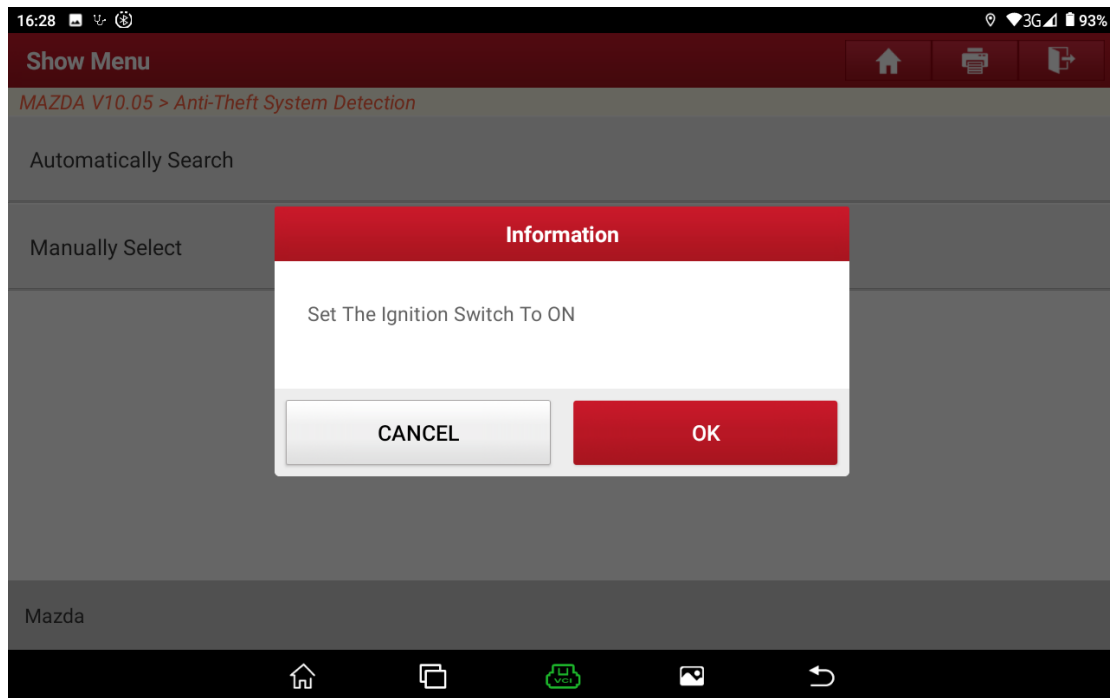

Figure A4
2. Turn on the ignition switch. See Figure A4.